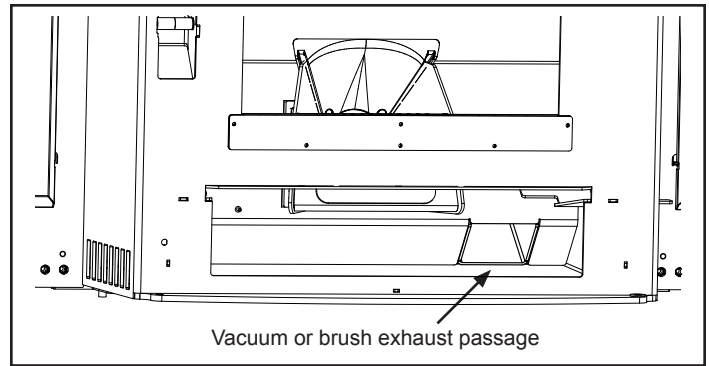

Figure 2.5
The burnpot grate can be removed if needed. Figure 2.5.
- Guide the vacuum hose upward into the exhaust passage in the right rear corner of the firebox, Figure 2.5.